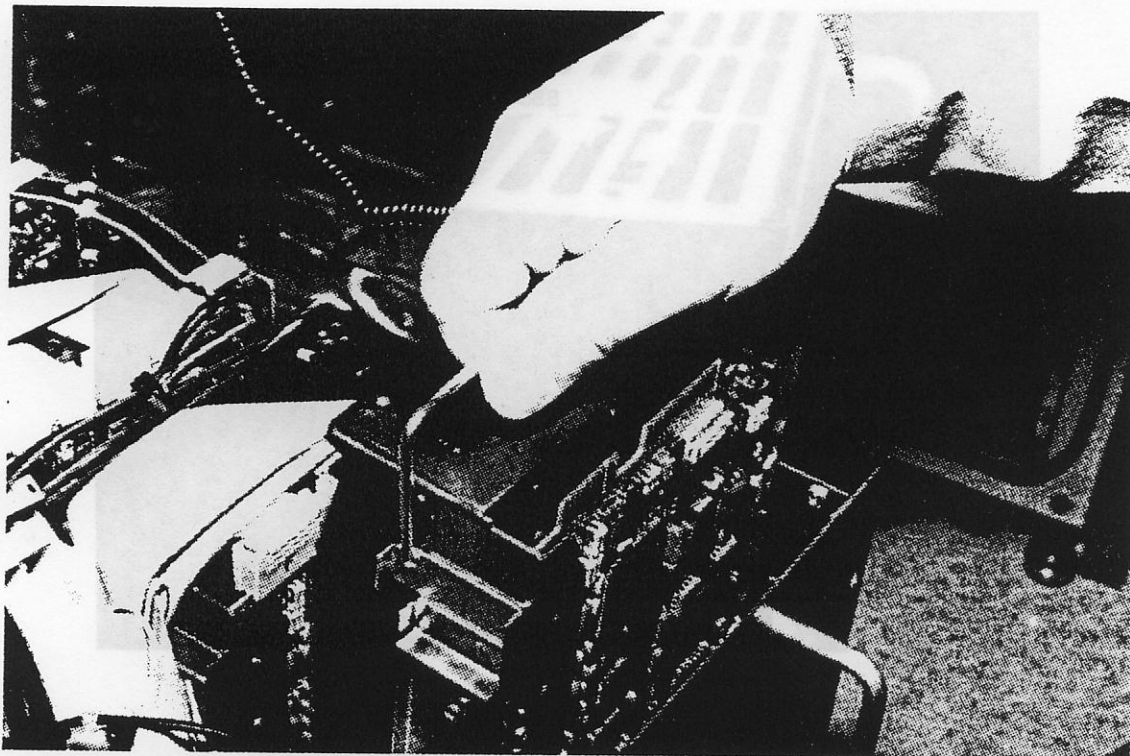

Figure 7-45. ESDI Drive Handle
8. Using the drive handle, pull the drive up and out of the tray. Refer to Figure 7-45. Avoid carrying the drive by the handle, as it may fall. Support the drive with two hands when possible.